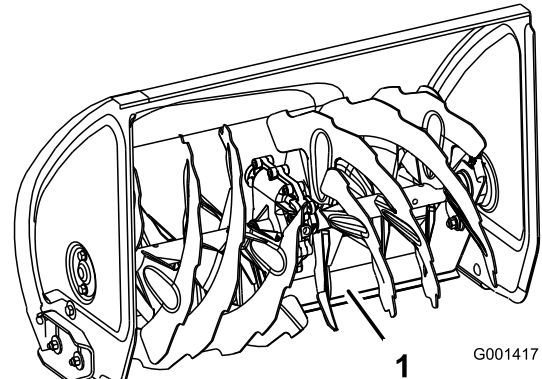

Figure 43
4. Push down on the handles to allow the pivoting scraper to move fully forward, then set the front of the machine down so that the front edge of the pivoting scraper contacts the ground (Figure 43).